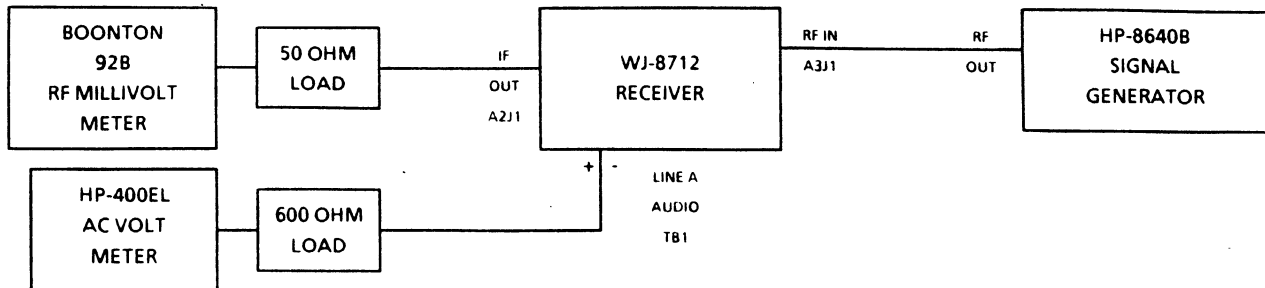

Figure 7-4. Receiver Sensitivity Performance Test Equipment Connection
1. Connect the WJ-8712 Receiver and test equipment as illustrated in **Figure 7-4**.